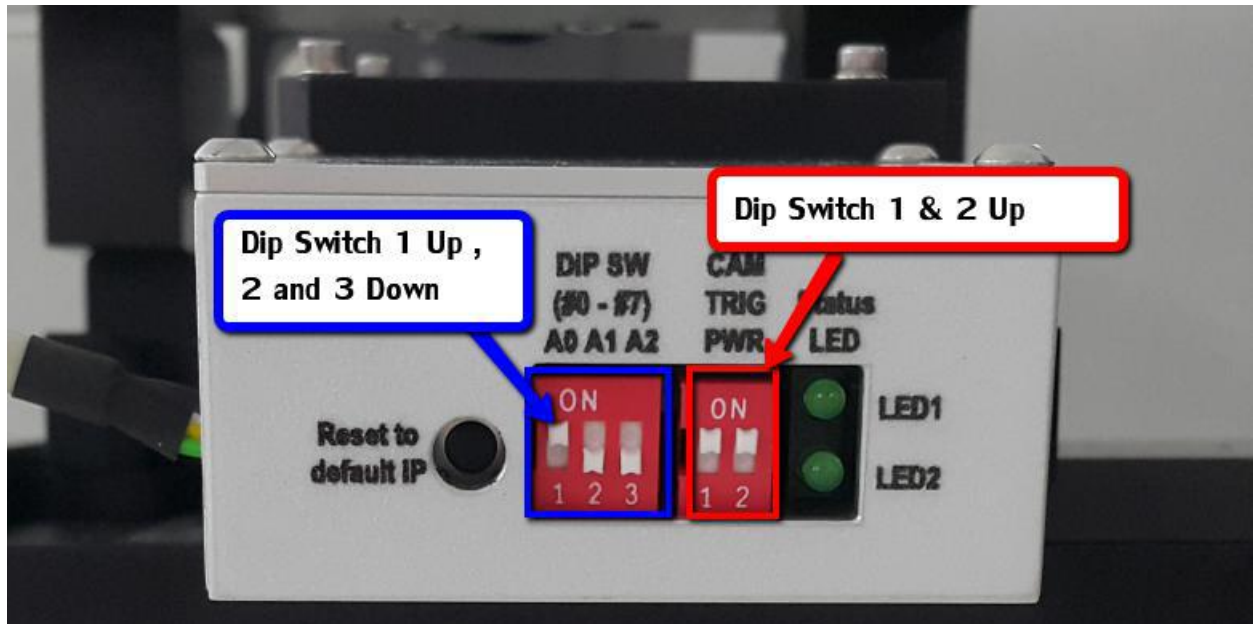

Figure 1 Rear Projector IP DIP SWITCH CONFIGURATION
1. Adjust the DIP switch at Rear Projector Module as below Figure 1.